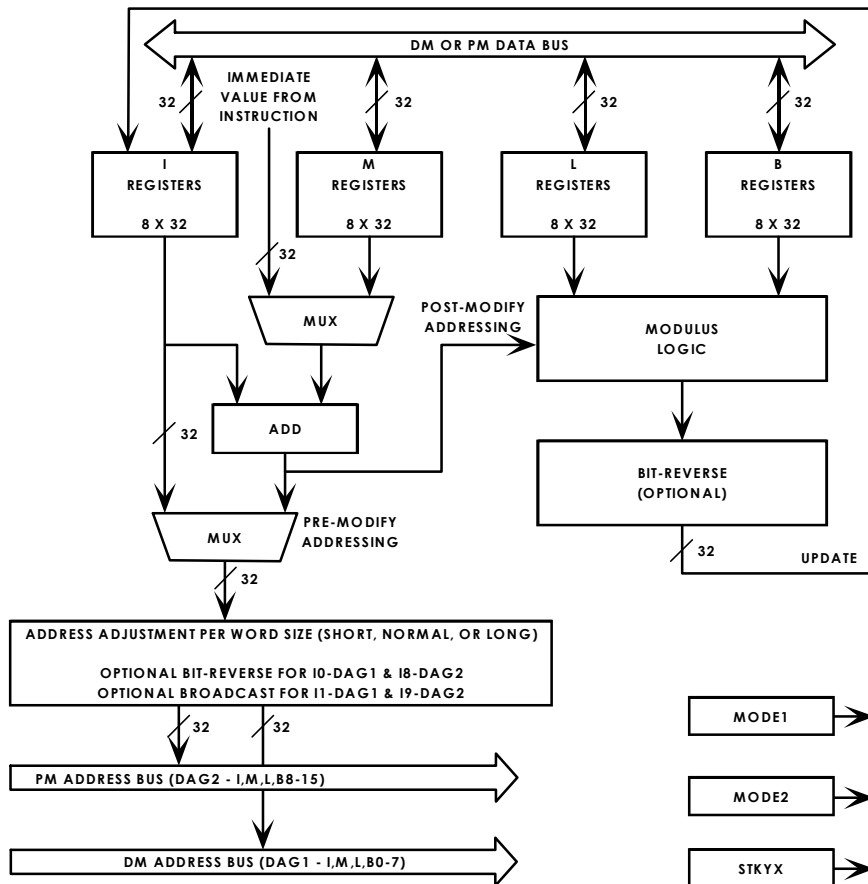
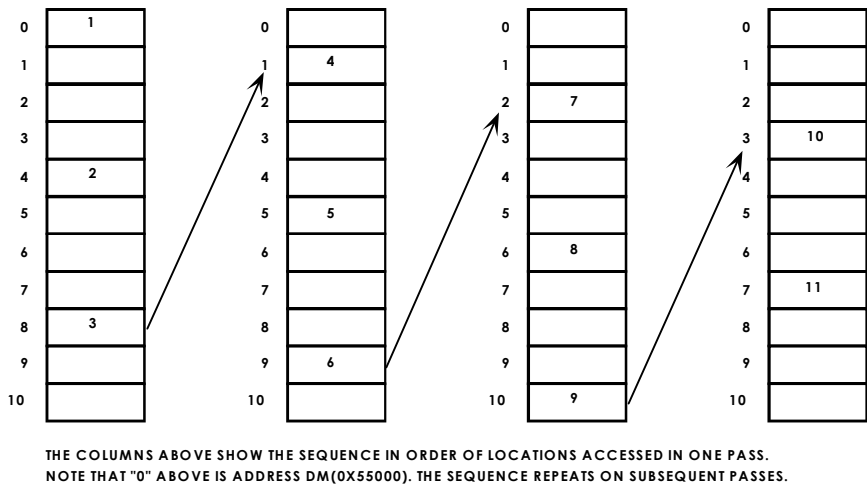

Figure 4-1. Data Address Generator (DAG) Block Diagram
Figure 4-4. Circular Data Buffers
The DSP's Data Address Generators (DAGs) generate addresses for data moves to and from Data Memory (DM) and Program Memory (PM). By generating addresses, the DAGs let programs refer to addresses indirectly, using a DAG register instead of an absolute address. The DAGs architecture, which appears in Figure 4-1, supports several functions that minimize overhead in data access routines. These functions include:
As shown in Figure 4-1, each DAG has four types of registers. These registers hold the values that the DAG uses for generating addresses. The four types of registers are:
The DSP's DAGs perform several types of operations to generate data addresses. As shown in Figure 4-1 on page 4-3, the DAG registers and the `MODE1`, `MODE2`, and `STKYx` registers all contribute to DAG operations. The following sections provide details on DAG operations:
An important item to note from Figure 4-1 is that the DAG automatically adjusts the output address per the word size of the address location (short word, normal word, or long word). This address adjustment lets internal memory use the address directly. For details on these address adjustments, see “Access Word Size” on page 5-41.
The DAGs support addressing circular buffers—a range of addresses containing data that the DAG steps through repeatedly, “wrapping around” to repeat stepping through the range of addresses in a circular pattern. To address a circular buffer, the DAG steps the index pointer (I register) through the buffer, post-modifying and updating the index on each access with a positive or negative modify value (M register or immediate value). If the index pointer falls outside the buffer, the DAG subtracts or adds the length of the buffer from or to the value, wrapping the index pointer back to the start of the buffer. The DAG's support for circular buffer addressing appears in Figure 4-1 on page 4-3, and an example of circular buffer addressing appears in Figure 4-4.
Circular buffering may only use post-modify addressing. The DAG's architecture, as shown in Figure 4-1 on page 4-3, cannot support pre-modify addressing for circular buffering, because circular buffering requires that the index be updated on each access.
As shown in Figure 4-4, programs use the following steps to set up a circular buffer: